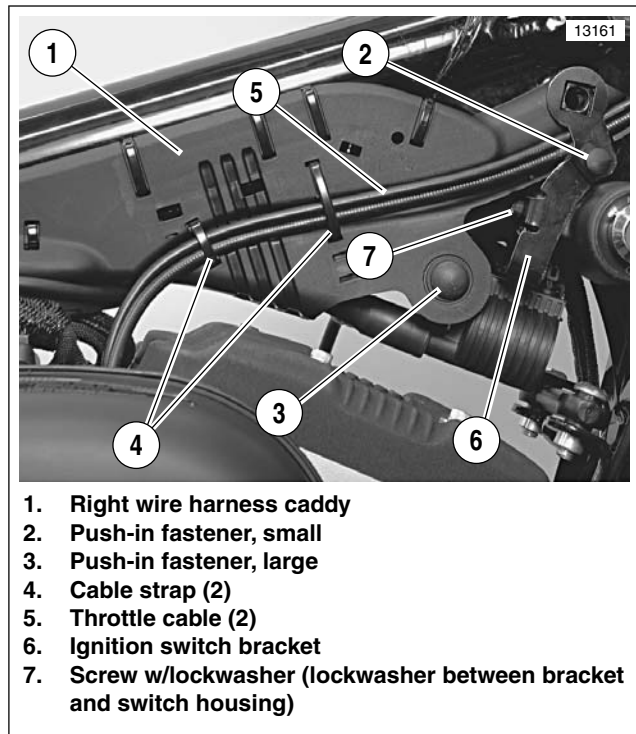
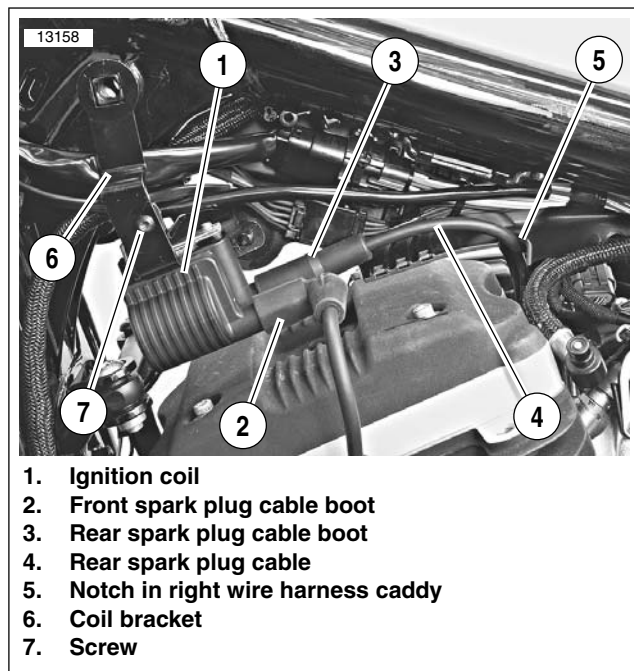

Figure 7-108. Right Wire Harness Caddy
Figure 7-110. Spark Plug Cable Routing
11. See Figure 7-108. Cut two cable straps (4) securing throttle cables (5) to right wire harness caddy (1).
12. Remove push-in fasteners (2, 3) securing right wire harness caddy to ignition switch bracket (6) on right side. Discard push-in fasteners.
14. Remove screw (7) securing ignition switch to mounting bracket and remove bracket. See 7.6 IGNITION/LIGHT SWITCH.
15. See Figure 7-108. Mount ignition switch to ignition switch bracket (6). Secure with screw with lockwasher (7). Position lockwasher between ignition switch bracket and switch housing. Tighten screw to 35-45 **in-lbs** (4.0-5.1 Nm).
*See Figure 7-108. **New** main wiring harness is equipped with two cable straps (4) already in position. Cut and remove these cable straps before performing the next step.*
18. Route throttle cables (5) in recess running along outside of right wire harness caddy. Secure throttle cables to caddy with two cable straps. Note that forward cable strap also secures instrument connector [20] on other side of caddy wall. Rear cable strap also secures wire harness leading to instrument connector.
20. See Figure 7-110. Slide ignition coil bracket (6) up into place, making sure coil bracket upright is outboard of wiring harnesses (handlebar controls, turn signals, instruments and headlamp) on left side of frame.
21. Install screw (7) to secure coil and ignition switch bracket halves together. Tighten to 35-45 **in-lbs** (4.0-5.1 Nm).
22. Route rear spark plug cable (3) up through notch (5) in right wire harness caddy and plug into right side ignition coil (1) tower. Plug front spark plug cable (2) into left ignition coil tower.